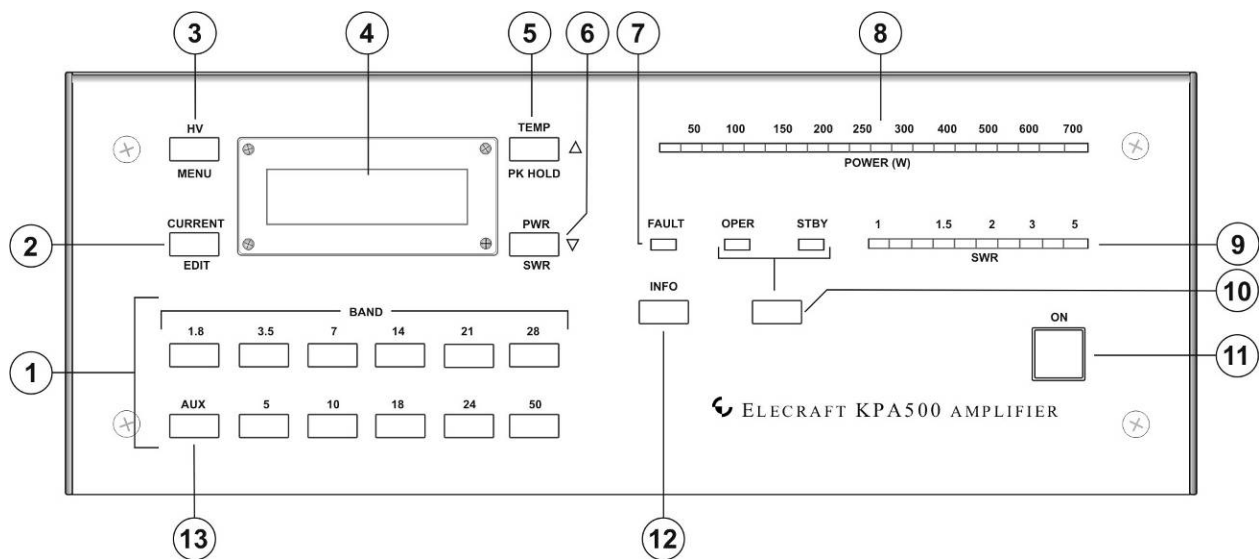

Figure 5. KPA500 Front Panel.
- Connect the mains supply cable to ② on the rear panel and plug the cable into the mains outlet.
- Position the rear-panel power switch ③ to On (I).
- Tap the front panel **ON** switch (⑪ on Figure 5). The LCD should light.
⚠ The red FAULT LED (⑦ on Figure 5) will light when you tap the **ON switch to protect your KPA500 if the power supply voltage is too far above the upper limit. Use a power transformer tap lower on the above table and retry the test.**